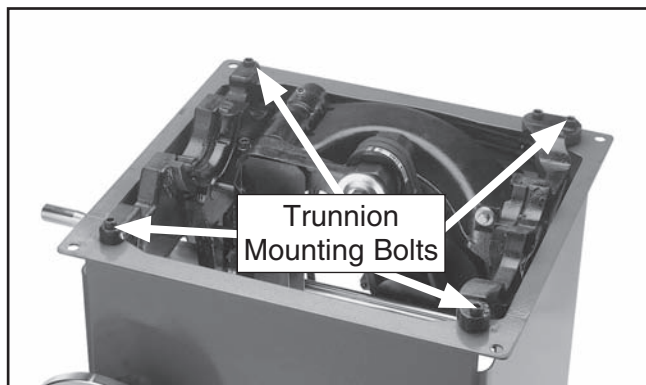

Figure 114. Trunnion mounting bolts.
3. Loosen the five trunnion mounting bolts as shown in **Figure 114**, and nudge the trunnion to either the left or the right depending on where the blade is hitting the saw.